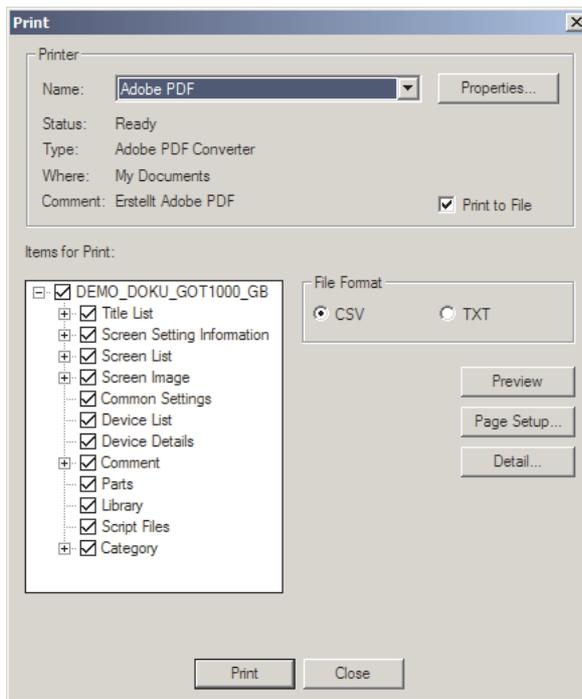

Fig. 7-2:
Tab. 7-1: Description to Fig. 7-2 (1)
Tab. 7-1: Description to Fig. 7-2 (2)